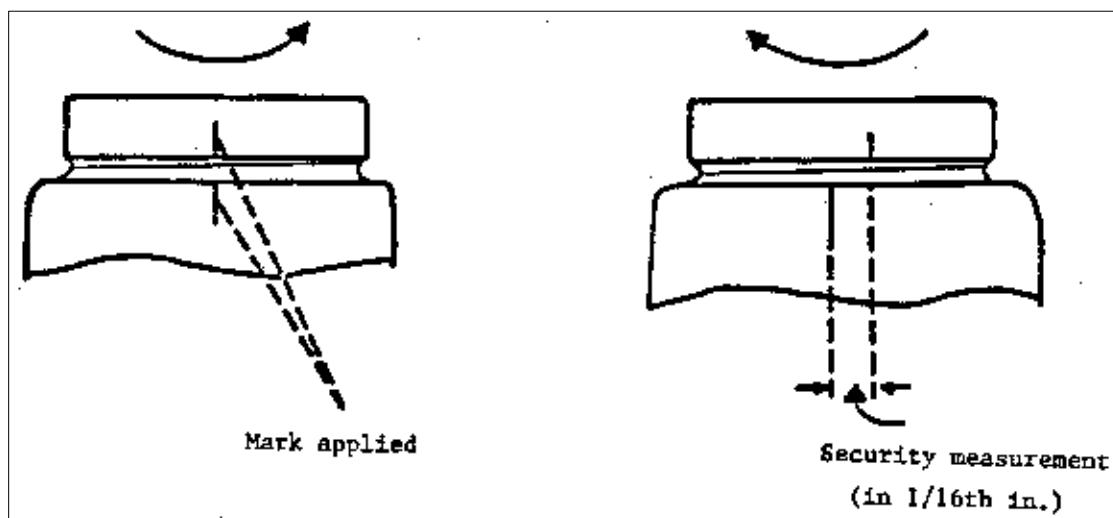

Figure 28. Security measurement for lug type twist closure.
3. **Security values (lug tension) on lug-type twist cap (Fig. 28).** Make vertical line on cap and corresponding line on container wall with marking pen. Turn closure counterclockwise just until vacuum is broken. Reapply closure to container just until gasket compound touches glass finish and closure lug touches glass thread (or until closure is at 2 inch-pound reapplication torque to achieve uniformity for application). Measure and record, in 1/16 inch increments, distance in front of vertical lines that were made before opening. Security is considered positive if line on cap is to right of line on container, and negative if line on cap is to left of line on container.